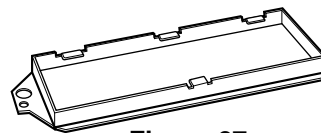

Figure 27
3. **ROOF-VENTED INSTALLATION:** Align the duct connector with the vent on top of the microwave oven. Damper should be on top of tab. Use two tapping screws (bright-colored) to attach duct connector to the microwave oven. See Figure 27, 28.